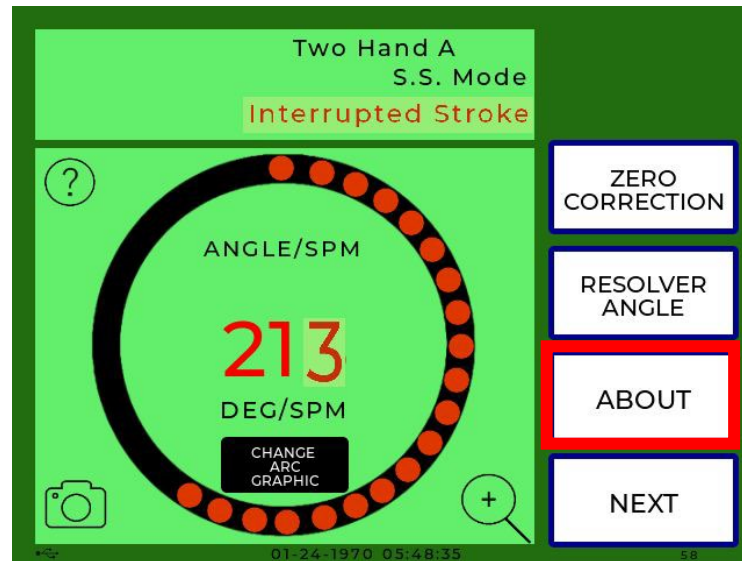
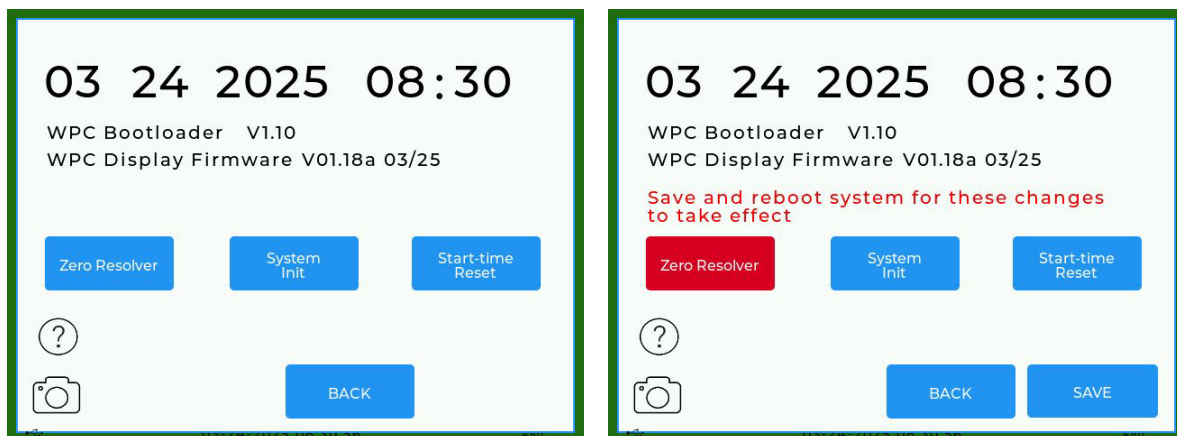

Figure 14. Program Screen, Indicating ABOUT Button
Figure 15. Initialization Screen Initialization Screen Before (left) and After Pressing Zero Resolver
3. On the screen that appears, Figure 14, press ABOUT. The Initialization screen, Figure 15, appears.